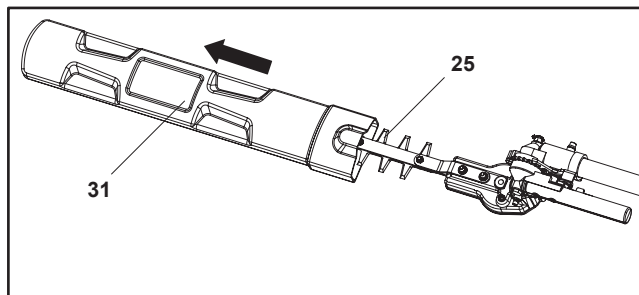

Fig. 6
1. Remove the hedge trimmer blade cover (31) from the hedge trimmer blade (25) before operation (Fig. 6).
2. Keep the hedge trimmer blade cover (31) safely.